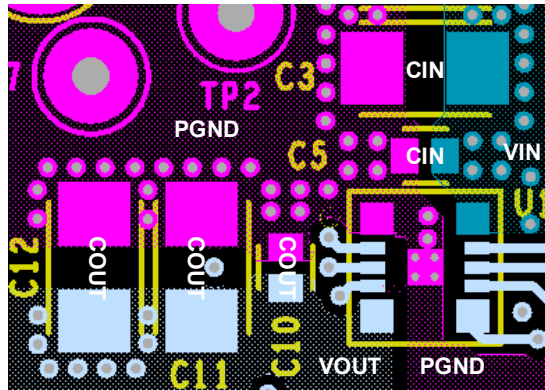
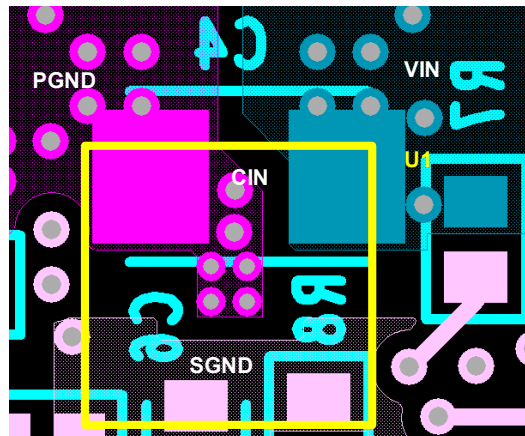

Figure 4. Layout Example - Top Layer
Figure 5. Layout Example - Bottom Layer
- Place the input ceramic capacitors as close as possible to the module input. These ceramic capacitors minimize the high frequency noise by reducing the parasitic inductance of the power loop. Proper placement of these capacitors not only leads to less PHASE node spikes and ringing, but also minimizes the switching noise coupled to the module. Renesas recommends using dielectric X7R or equivalent with a minimum total capacitance of 44 $\mu$ F at the module input. A layout example is shown in Figure 4 and Figure 5.